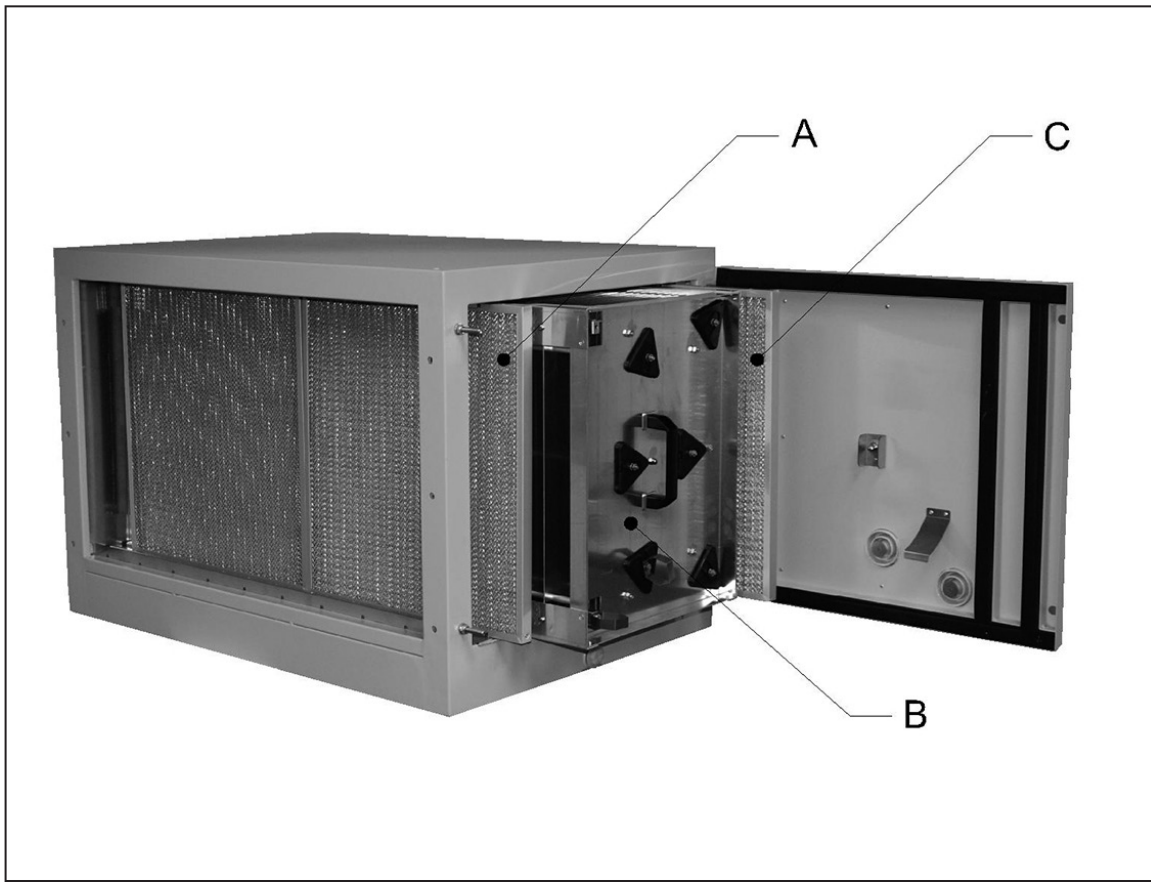

Figure 2.1
The extracted contaminated air passes through the pre filter (A) which takes out all larger particles. The pre filter also ensures an even distribution of the airflow. After that, the air passes through the collector cell (B), before passing through the after filter (C), the last filtration step which also spreads the airflow. See Fig. 2.1.